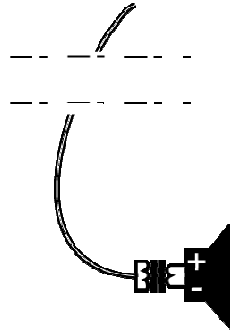

Figure 22 Schematic Diagram of the Loudspeaker and the Audio Cable Connection
3. Connect the loudspeaker to the other end of the audio cable, and if there are many speakers in the same line, please follow the connection method shown in Figure 22.